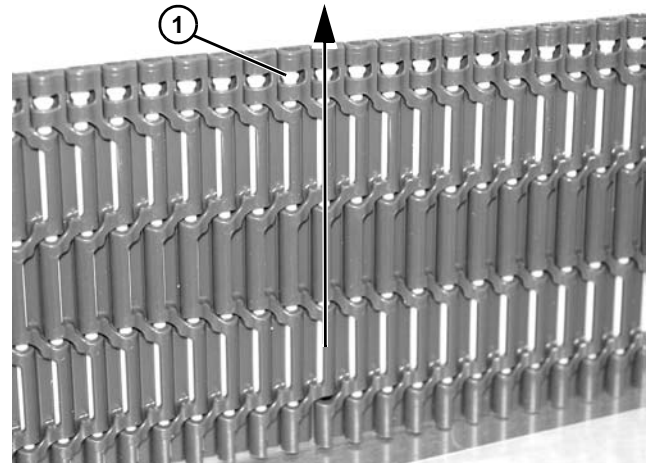

Figure 129
Note that head of pin (Figure 129, item 1) should be removed in direction shown.